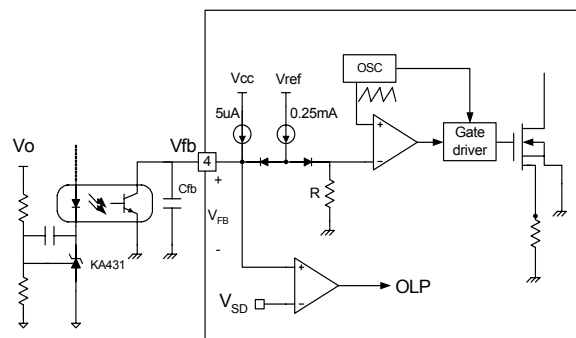

Figure 8. PWM and Feedback Circuit
2. Feedback Control : The FSD200B/210B are voltage mode controlled devices as shown in Figure 8. Usually, an opto-coupler and KA431 type voltage reference are used to implement the feedback network. The feedback voltage is compared with an internally generated sawtooth waveform. This directly controls the duty cycle. When the KA431 reference pin voltage exceeds the internal reference voltage of 2.5V, the optocoupler LED current increases, the feedback voltage V_{fb} is pulled down and it reduces the duty cycle. This will happen when the input voltage increases or the output load decreases.